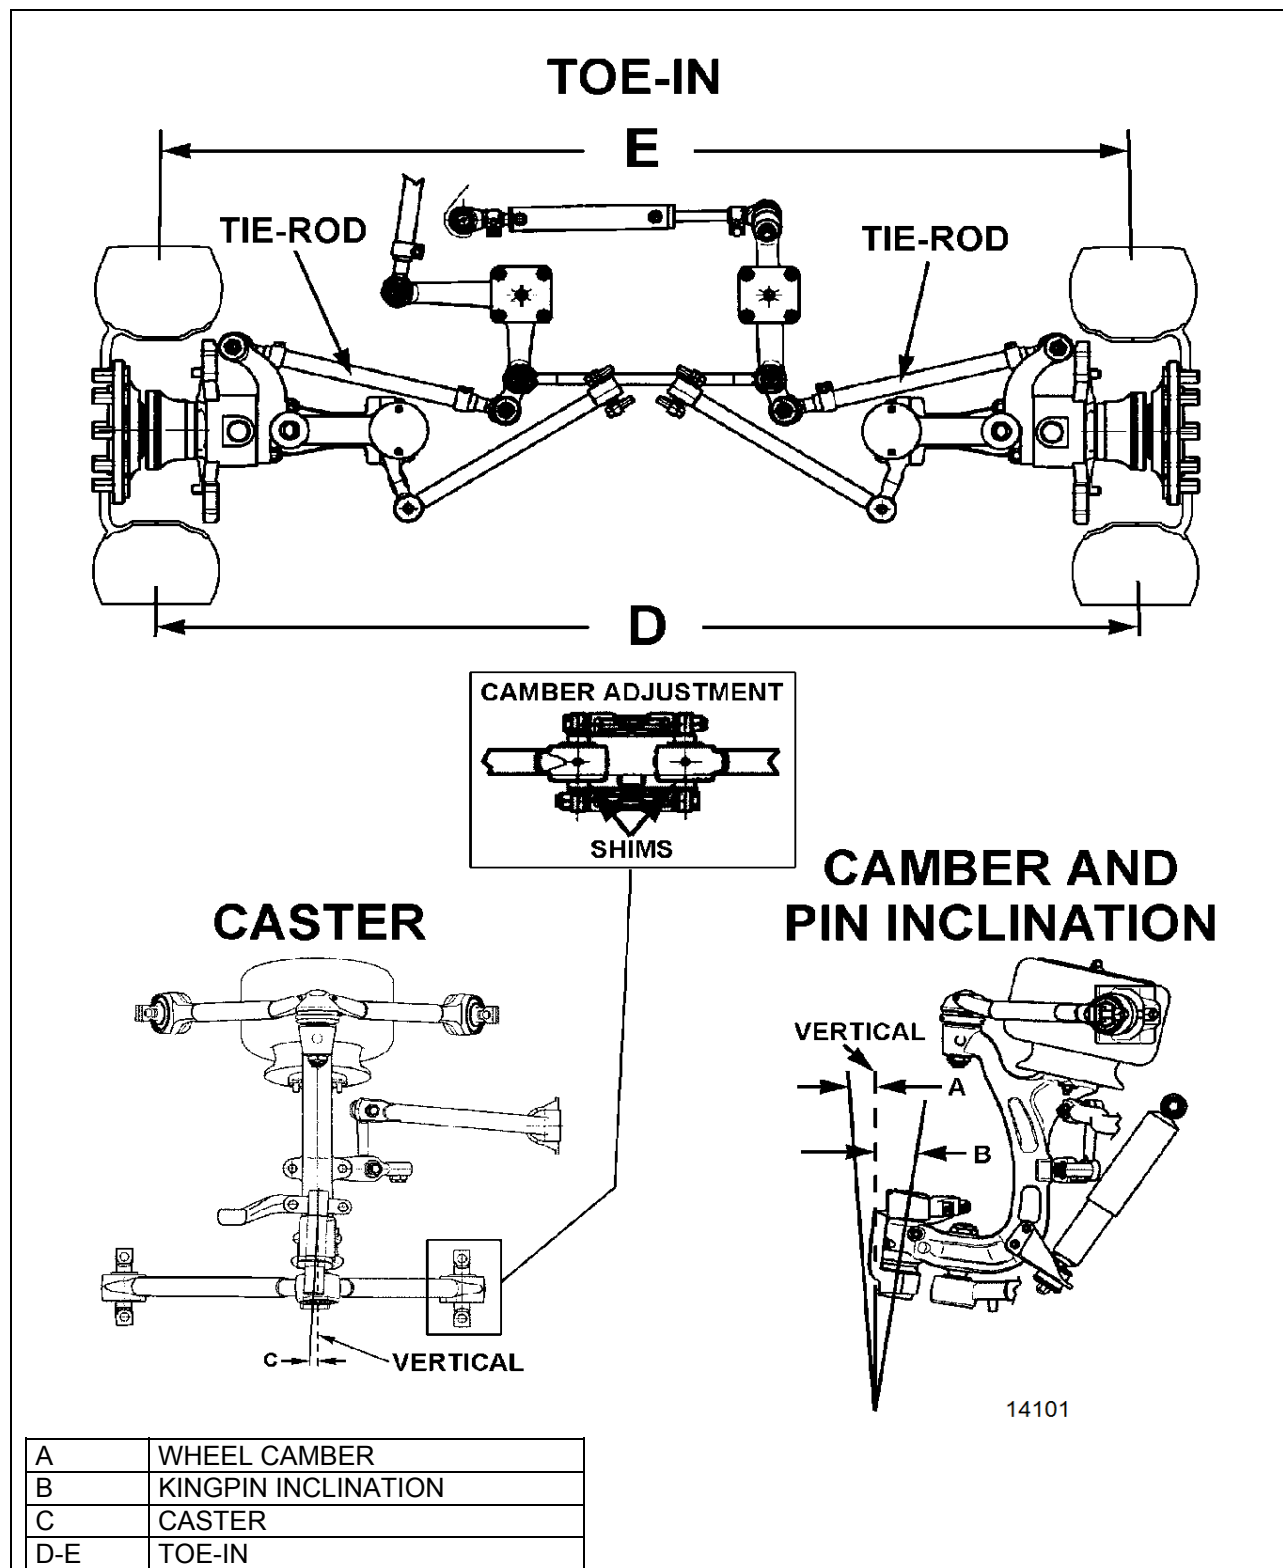

FIGURE 37: FRONT END ALIGNMENT DIAGRAM
**Wheel Camber:** Camber is the number of degrees the top of the wheel is tilted inward or outward from a true vertical (Figure 37).
**Wheel Toe-In:** a slight forward convergence given to the wheels of motor vehicles to improve steering and equalize tire wear (D minus E, Figure 37).
**Kingpin Inclination:** The inclination of the kingpin from vertical toward the center of the vehicle at the top and outward at the bottom (B, Figure 37).
**Front Axle Caster:** The inclination of the kingpin from vertical in the fore and aft direction (C, Figure 37).
Caster variations may be caused by bent upper suspension A-arm, lower suspension A-arm, or kingpin housing. Caster should be adjusted with shims. Precision instruments should be used to measure caster. Shim bell crank and idler arm to adjust caster (Figure 37).